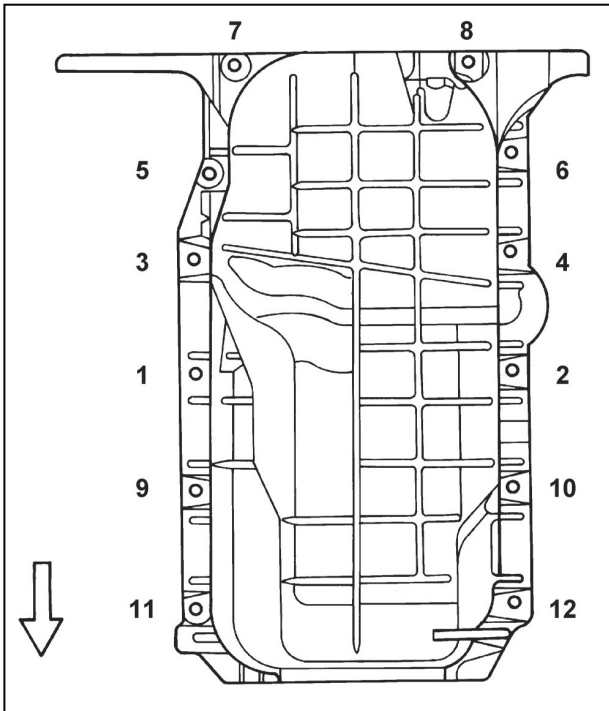

Figure 12-84 Oil Pan Tightening Sequence
- Bolts to 25 N·m (18 lb·ft.) in the sequence shown (figure 12-84).